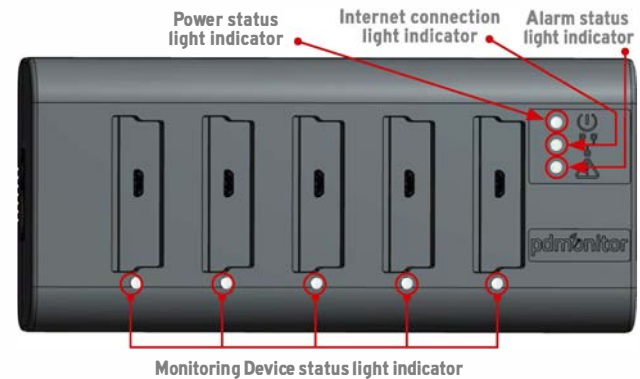

Figure 5. Top View of PDMonitor® SmartBox
5. All Monitoring Device status light indicators on the SmartBox should be switched off (Figure 5)